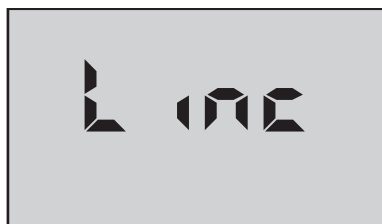

Figure 27
3. Press  arrow key until the menu “**Linc**” appears (see Figure 27).
2. Press  key until the menu "Linc" appears (see Figure 27).